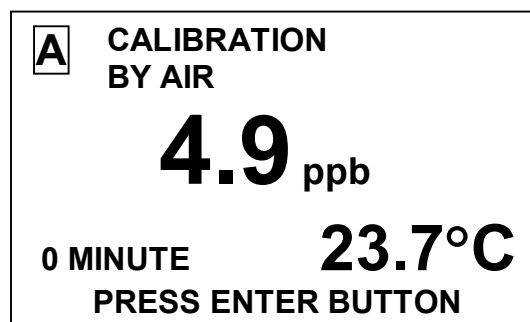

Fig. 2.6
- 3 With the cursor against AIR line press the "menu enter" button. Display shown in Fig. 2.6 appears.
- 5 At least 40 min press the "menu enter" button and the analyzer will carry out calibration against air. Display shown in Fig. 2.6 appears.